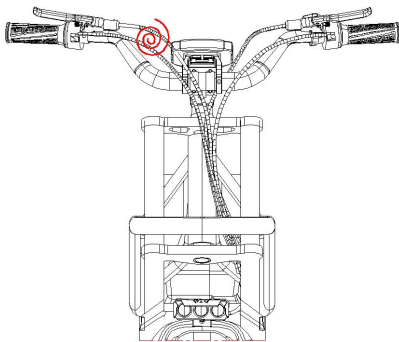

Figure 2-1-12
2.11Manage the cable harness: Take out of the winding tube from the accessory box, tie the left and right wire harnesses together (Figure 2-1-12) 。